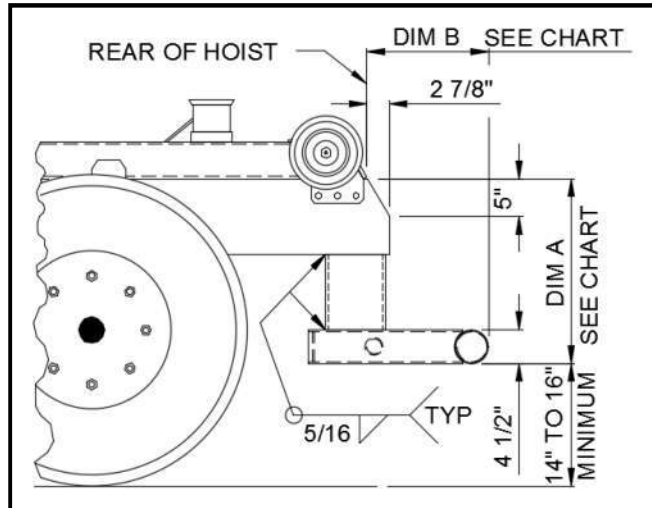
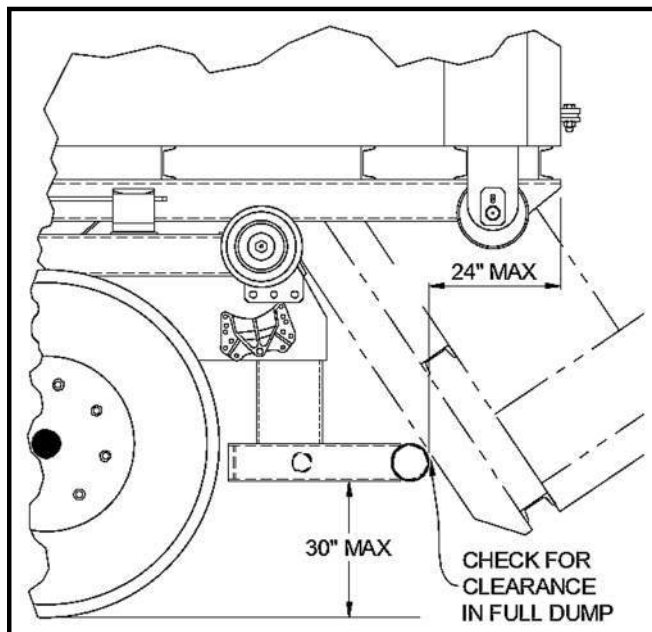

Figure 1
Figure 2
2. Trim truck frame to indicated dimensions (See Figure 1). These dimensions will facilitate the mounting of the rear light assembly if it is also being mounted.
3. Measure the distance from the top of the truck frame to the ground (NOTE: This should be performed on a level surface). Based on this measurement and the dimensions in Figure 1, the vertical channel [Part No. 63H94] may need to be modified in length to meet the Office of Motor Carrier Safety (OMCS) regulations. Regulation 393.86 requires that no bumper be located more than 30" off the ground when the truck is empty, and the end of the bumper should not be located more than 24" from the extreme rear of the vehicle, including truck bodies (See Figure 2). Once the length has been determined for the vertical channels, weld them to the bottom of the truck frame (See additional notes on next page).
4. Center the bumper weldment [Part No. 52H12] on the vertical channels [Part No. 63H94]. Position rear of bumper from rear of the hoist as indicated by the bumper location chart. This is crucial in order to ensure that the container longsills do not contact the bumper during the dump cycle (See Figure 1 & 2).
5. Weld the bumper weldment to the vertical channels (See Figure 1 & 3).